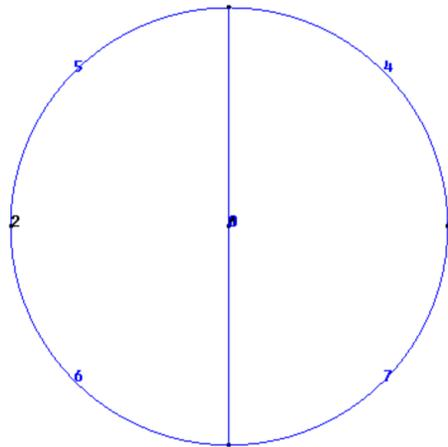

Figure 6: Four arcs defining the base of the cylinder
11. Turn off all labels then turn on all line labels to label the 4 arcs and the vertical construction line (Figure 6).